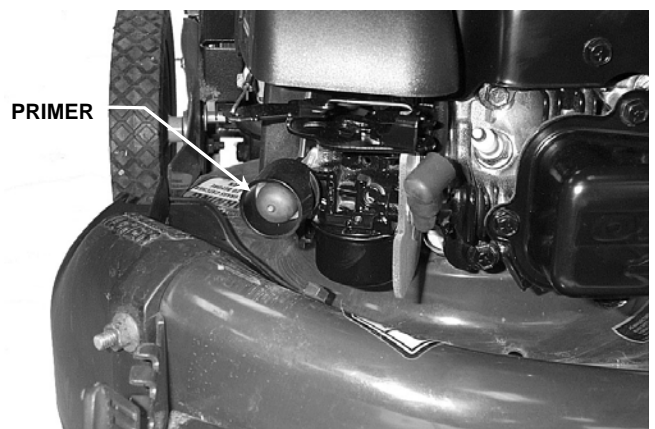

FIGURE 2.4
2. Push primer button three times to start a cold engine. **NOTE:** The primer should not be required to restart a warm engine. See Figure 2.4